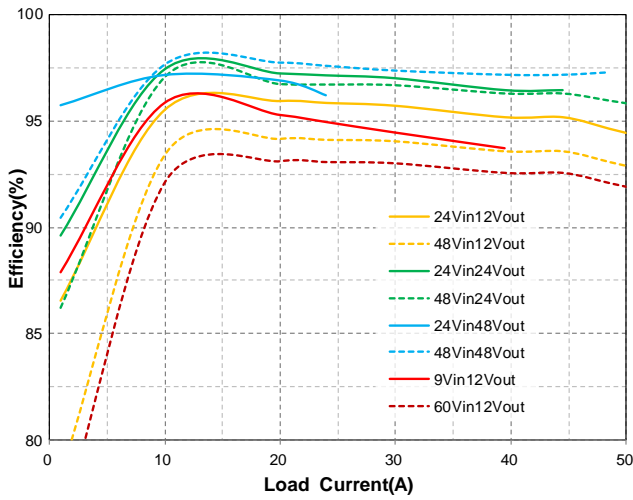

Figure 1: Efficiency vs. Load Current at Ta=25°C
1) Vset pin (9) is the default output voltage setting Pin. It can be disabled and set output voltage by PMBus. Refer to PMBus commands specifically.
2) H60SB0A050NRDE efficiency is 1.3% less than the H60SB0A050 other series when Vo close to Vin. They are equally efficiency when Vo not close to Vin. H60SB0A050 other series efficiency refer to the Figure 1 of P4.